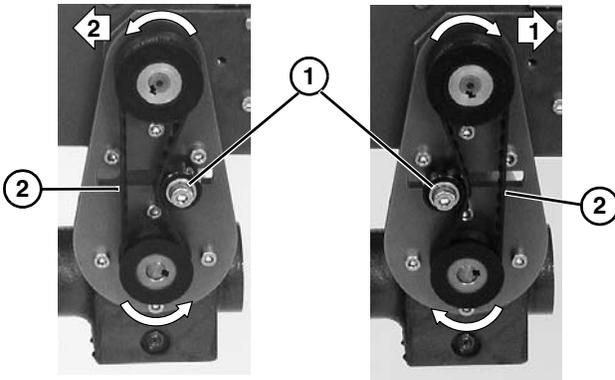

Figure 10
8. Depending on direction of conveyor belt travel (1 or 2 of **Figure 10**), position belt tensioner (**Figure 10, item 1**) as shown. Tension belt to obtain .125" (3 mm) deflection for 1.0 lb (456 grams) of force at belt mid-point (**Figure 10, item 2**). Tighten tensioner screw to 103 in-lb (12 Nm).